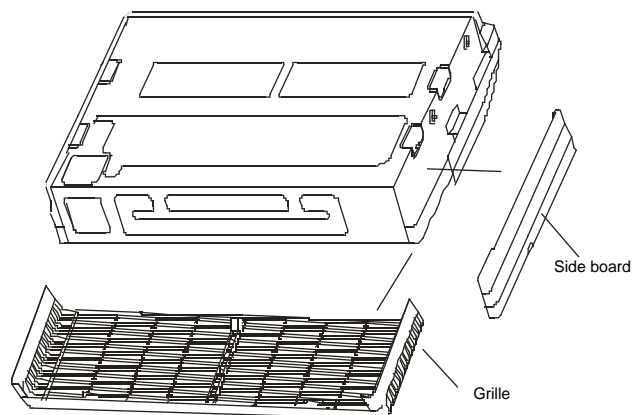

Fig. 4-10
- Remove the side board and the grille. (Refer to Fig. 4-10)